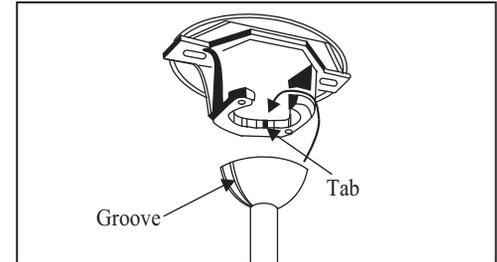

Figure 12
4. Carefully lift the fan assembly up to the hanger bracket and seat the hanger ball in the bracket socket. Make sure the tab on the hanger bracket socket is properly seated in the groove in the hanger ball. (Figure 12) This will help to balance the ceiling fan.
THE TAB IN THE RING MUST REST IN THE GROOVE OF THE HANGER BALL AS FIGURE 12. FAILURE TO PROPERLY SEAT THE TAB IN THE GROOVE COULD CAUSE DAMAGE TO WIRING.